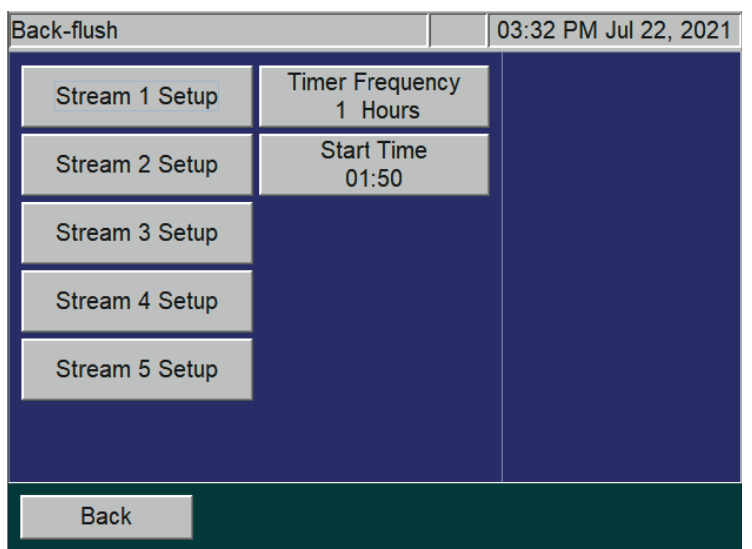

Figure 65: Back-flush screen
- Next choose the **Stream Setup** button (such as **Stream 1 Setup** button) to customize the following settings for each applicable stream (see Figure 65: Back-flush screen and Figure 66: Stream 1 Back-flush screen).